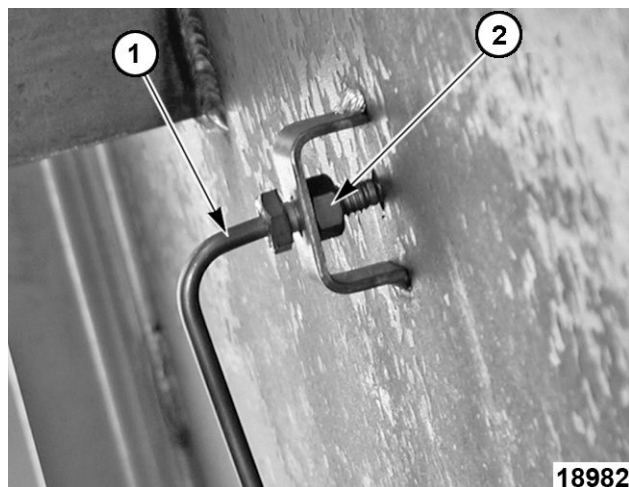

Fig. 10
- C. Remove thermocouple probe (1, Fig. 10) from mounting bracket (2, Fig. 10). Retain lock nut.